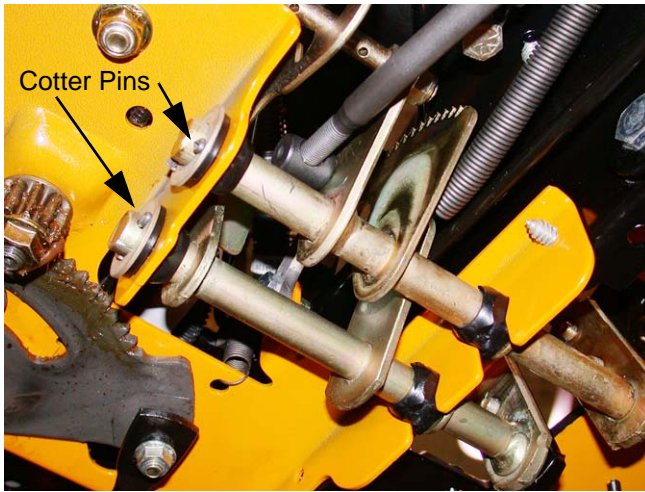

Figure 16.10
16.10. Remove the cotter pins in the brake pedal shaft and the drive pedal shafts. See Figure 16.10..